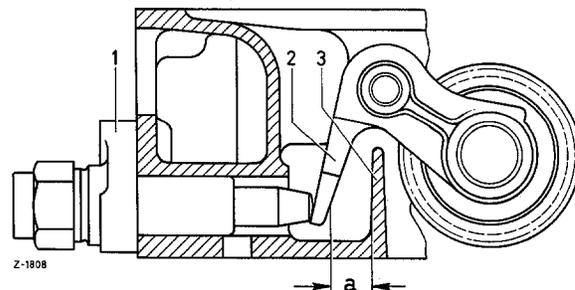

Figure 05-20/1
a) Normal wear may lead to an elongation of the double roller chain which will result in rattling noises, as well as change delivery (begin of feed) of the injection pump and the timing. When the vehicle is serviced according to plan E the reserve distance "a" of the chain tightener should be measured. This is done by means of a gauge 2 mm thick, part No. 621 589 02 23 00, which is inserted from the front, in-between lever (2) of the idler sprocket support and web (3) of the cylinder head (refer to Figure 05-20/1).